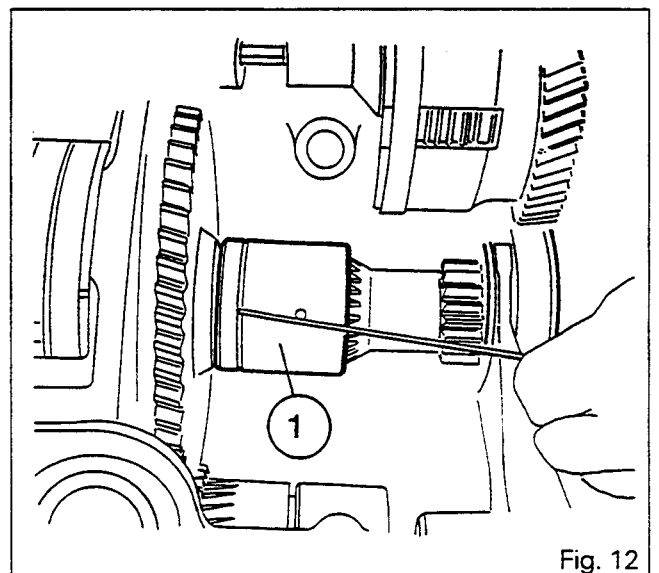

Fig. 12
**Note: The machined groove on the sleeve (2) must be pointing towards the rear of the tractor (Fig. 12).**